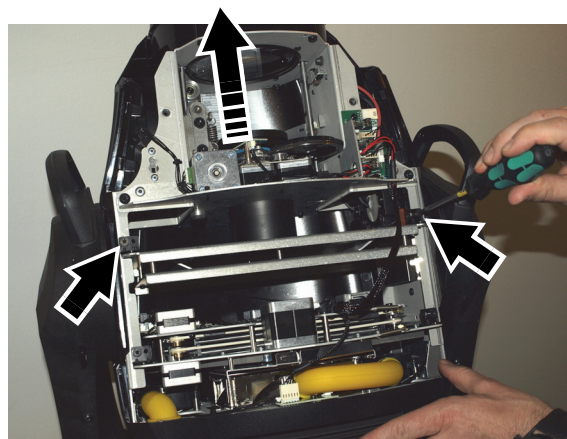

Figure 17: Releasing the aperture plate module
5. See Figure 17. Remove the two Torx 20 aperture plate module retaining screws (arrowed). Then tilt the head down or use a thumb on one of the zoom/focus car's metal plates or motors to slide the zoom/focus car towards the front of the head without touching any glass or fragile components. Lift the aperture plate module out of the head.